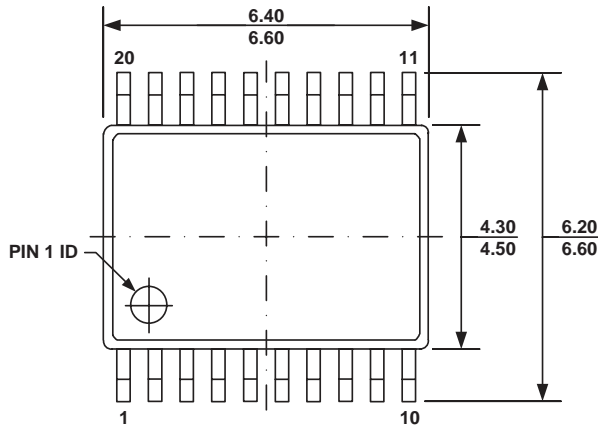

**Figure 1— Mono Full Bridged Circuit**
Circuit of Figure 1,  $V_{DD} = 16.5V$ ,  $V_{EN} = 5V$ ,  $R_L = 4\Omega$ ,  $T_A = +25^\circ C$ , unless otherwise noted.
- 6) Operating Specifications are for the IC in Typical Application circuit (Figure 1).
Circuit of Figure 1,  $V_{DD}=16.5V$ ,  $T_A=25^{\circ}C$ , unless otherwise noted.
The MP7731 uses a minimum number of external components to complete a fully bridged Class D audio amplifier. The circuit in Figure 1 shows a typical application. Use the following sections to customize the amplifier for your particular application.
Typical values for the LC filters are shown in Figure 1. The characteristic frequency of the LC filter needs to be high enough to allow high frequency audio to reach the output, yet needs to be low enough to filter out high frequency contents of the pulses from SW.